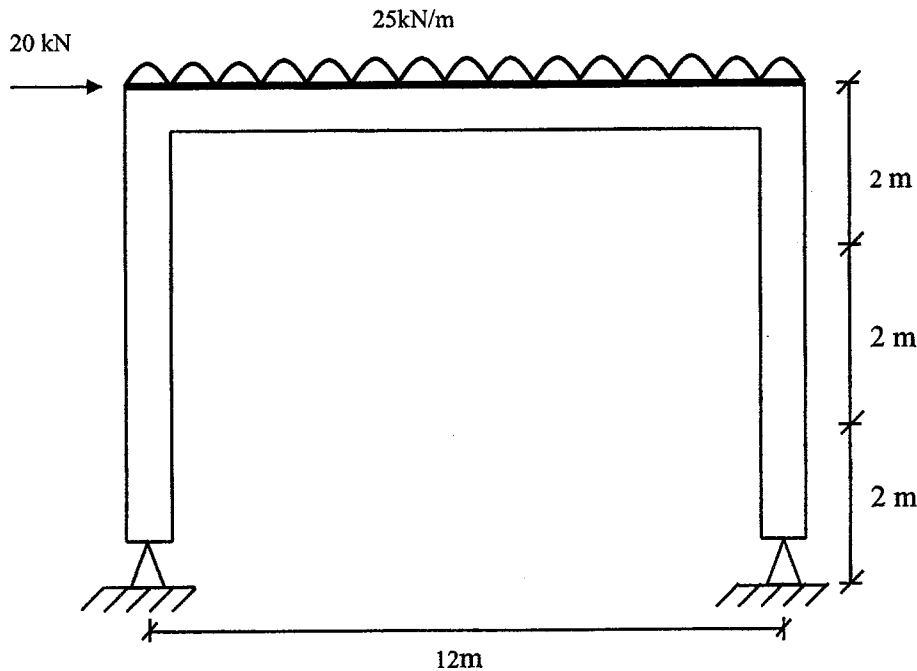

Figure 1.0
- Design the beam and the column of steel frame shown in Figure 1.0. Total live and dead load is assumed as 25 kN/m and the lateral load due to wind is assumed as concentrated at the knee as 20 kN. Columns are braced about the weak axis at 2m intervals. It may be assumed that the plastic moment capacity of beam is 4 times that of columns.